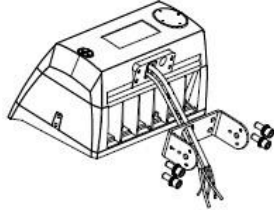

Figure 3
- Step 1. Run the fixture wires through the hole on the upper part of the mount (Figure 3).